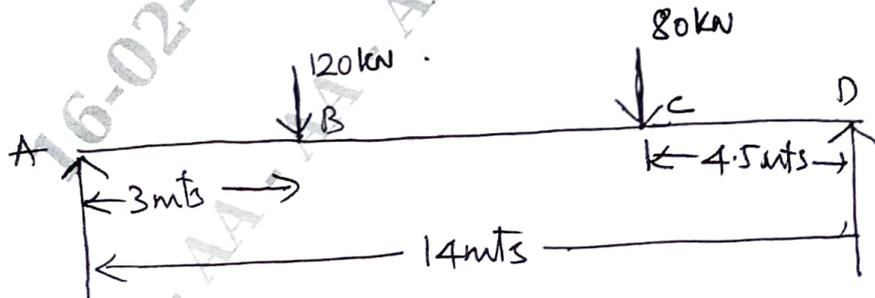

Fig. Q9
- 9 Determine the deflection under the loads, maximum deflection and slope at the supports for a simply supported beam shown in Fig. Q9, values of $E = 2.1 \times 10^5 \text{ N/mm}^2$ and $I = 160 \times 10^7 \text{ mm}^4$. (20 Marks)